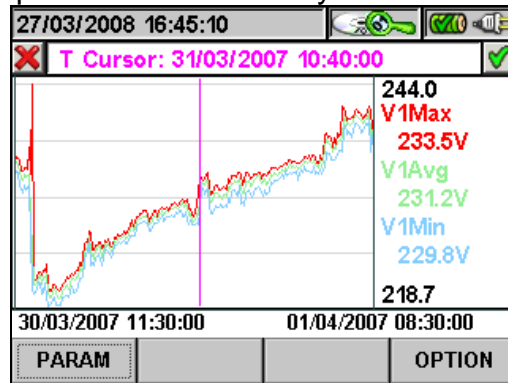

Fig. 120: Recording graph
- The **ENTER** key (or the smart icon on the display) confirms the selection previously made and displays the graph of the selected parameter (Fig. 120).